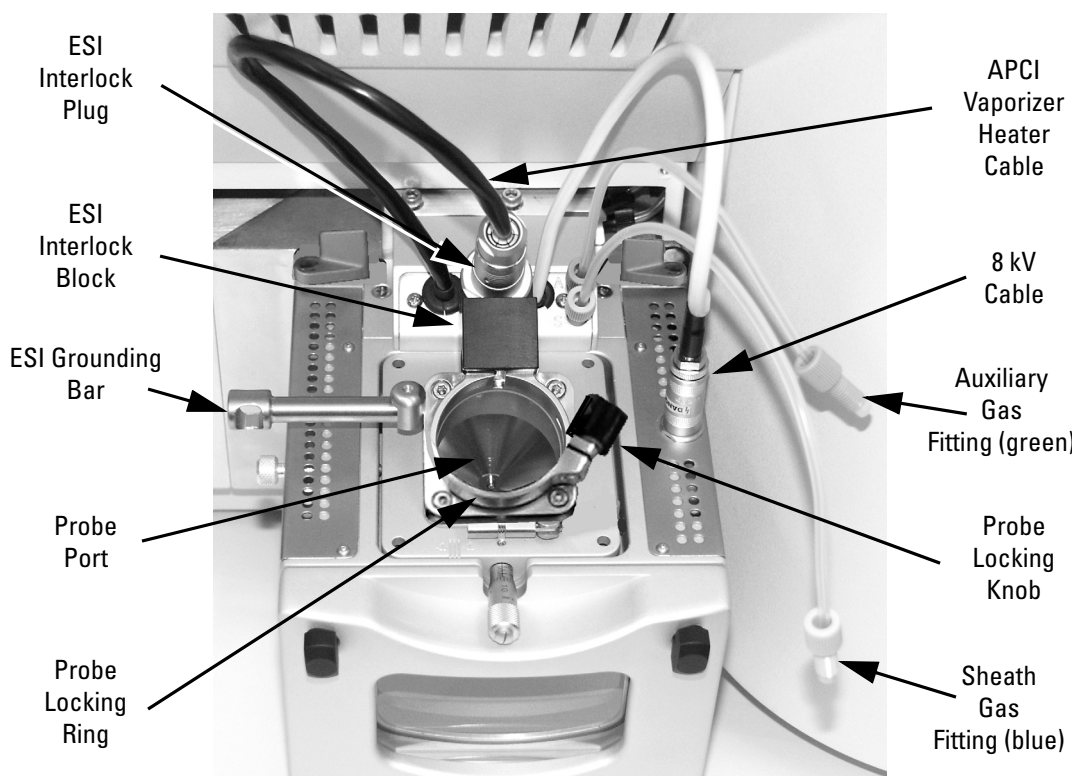

Figure 2-10. Ion Max ion source housing, probe locking lever open
2. Ensure that the probe locking ring is opened to its widest position. See Figure 2-10.